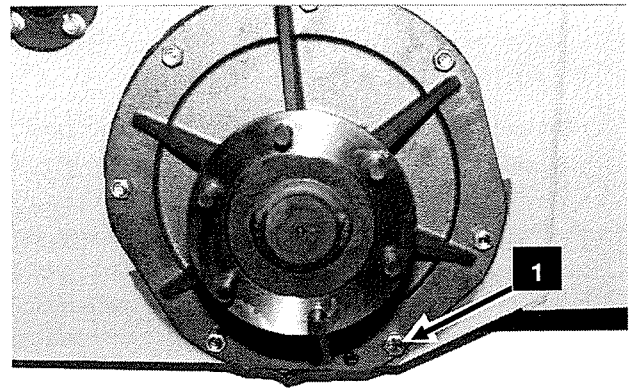

Fig. 43: 3725/3825 Chaincase Drain Plug
Change Chaincase Oil (See Figs. 43 & 44)
3. Remove Rear Wheels to gain access to the Chaincase Oil Drain Plug. The Plug is the lower rear bolt of the rear Axle Housing. See **Fig. 43**.